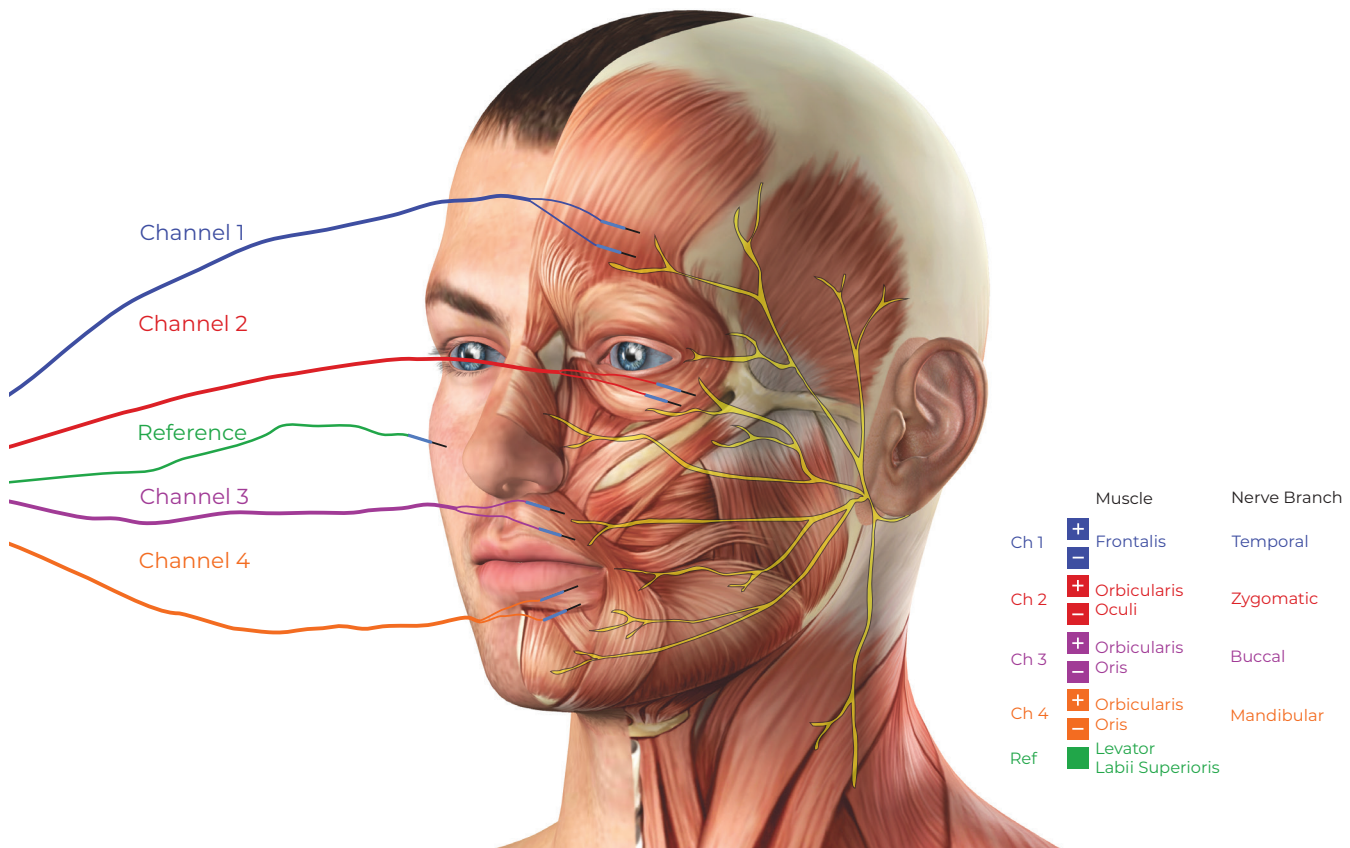

Figure 3.1: Suggested electrode placement during surgery of the parotid gland.
2. Insert each pair of Subdermal Needle Electrodes into the appropriate muscles indicated in Figure 3.1 (page 4), with the wires leading away from the surgical site. Ensure that the needles of each electrode are inserted adequately into the muscle and not simply under the skin.